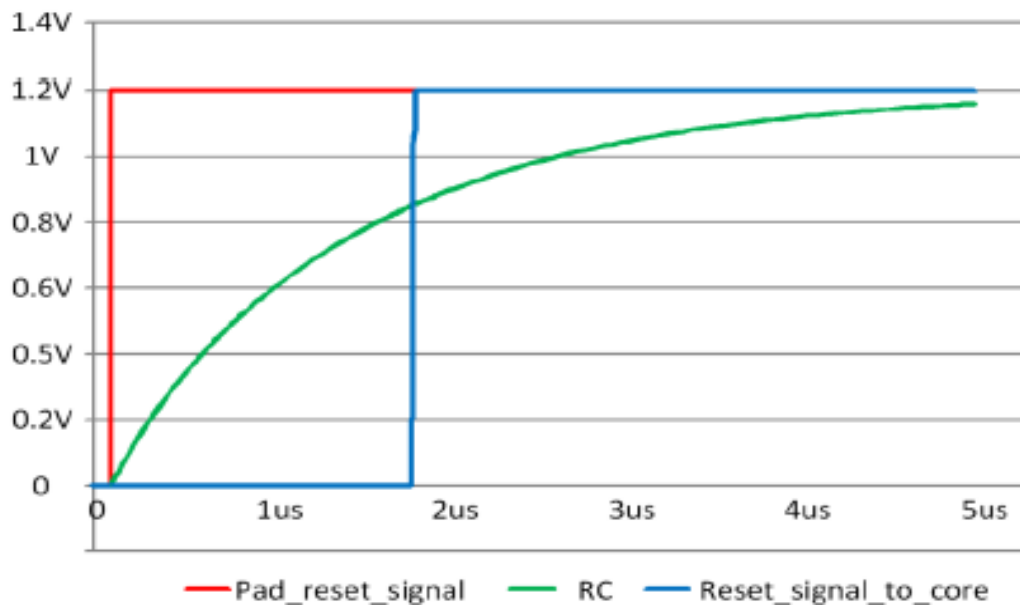

Figure 4. RST Pad Latency
The response is illustrated in the **Figure 4** which displays the voltage (V) on the vertical axis and the time ( $\mu$ s) on the horizontal axis: